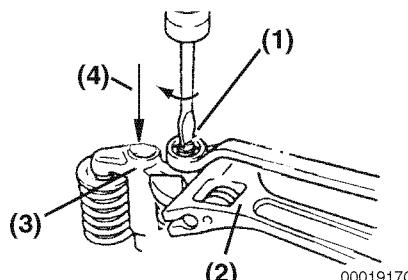
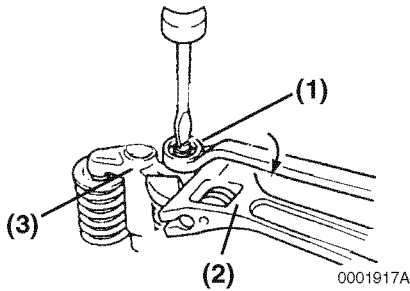
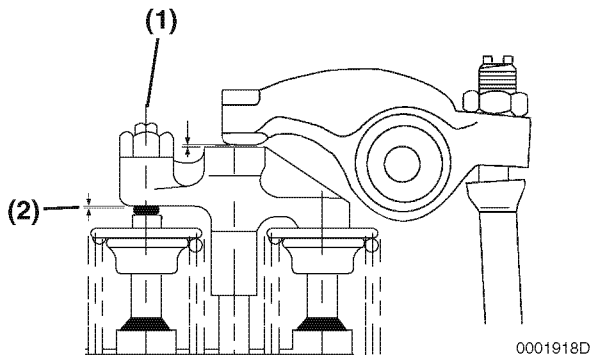

Figure 6-82
Figure 6-83
Figure 6-84
5. To assure the valve bridge contacts the rear valve, apply light, downward (Figure 6-82, (4)) finger pressure on the valve bridge (Figure 6-82, (3)), and loosen the valve bridge adjusting screw (Figure 6-82, (1)), until there is visible clearance (Figure 6-84, (2)) between the adjusting screw and the front valve.
6. To assure the valve bridge has equal contact with the front and rear valves, apply light downward (Figure 6-82, (4)) pressure on the valve bridge (Figure 6-82, (3)), adjust the valve bridge adjusting screw ((Figure 6-82, (1)), (Figure 6-84, (1))) so there is zero "0" clearance (Figure 6-84, (2)) between the adjusting screw and the front valve.
- Tighten the lock nut (**Figure 6-83, (1)**), while holding the valve bridge (**Figure 6-83, (3)**) with a wrench (**Figure 6-83, (2)**). Verify that the valve clearance (**Figure 6-84, (2)**) is zero "0".